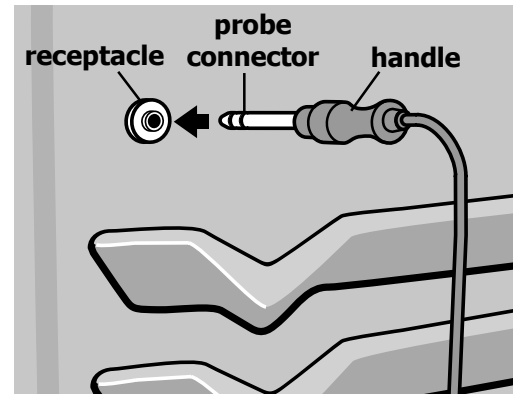

Fig. 2
3. Plug the connector end of the probe all the way into the probe receptacle while the oven is still cool. The **receptacle** is located on the upper left front oven cavity wall (Fig. 2).